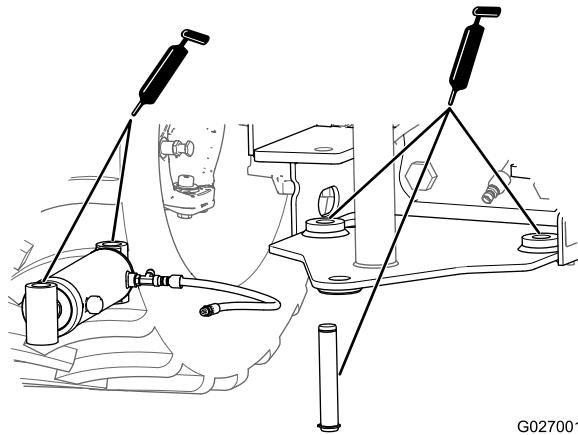

Figure 15
5. Apply a coat of the specified grease to the pin (1-1/4 x 7-5/8 inch), inside diameter of the hole in the cylinder lug, inside diameter of the mounting frame bushing, and inside diameter of both mount fittings of the pivot cylinder (Figure 15).